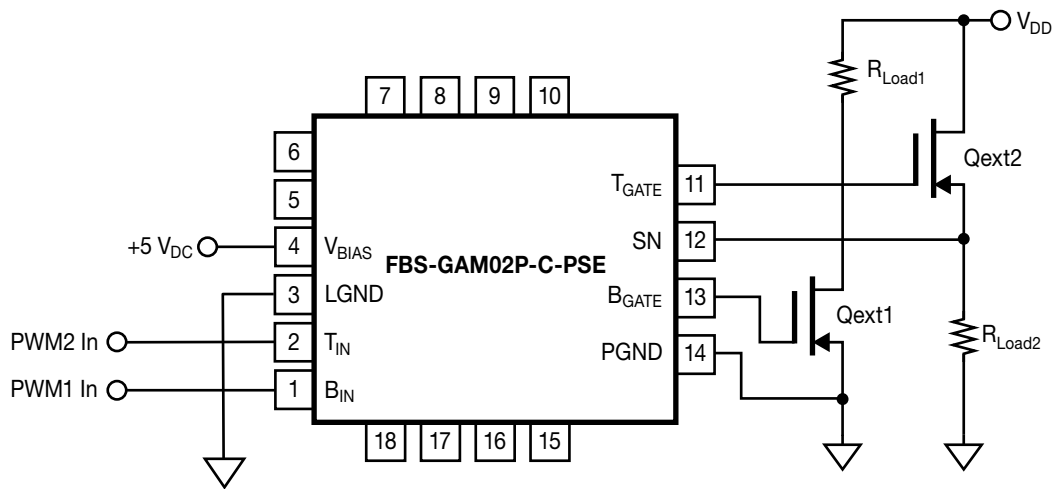

Figure 10. Independent High- and Low-Side Power Switches
The FBS-GAM02P-C-PSE incorporates a Power Good (PG) sensing circuit that disables both internal (low- and high-side) gate drivers when the +5 V gate drive bias potential (VBIAS) falls below the under-voltage threshold, UVLO-, or rises above the VBIAS over-voltage threshold level, OVLO+ (please refer to Figure 5 for the proper operational nomenclature and functionality versus the state of the VBIAS power supply). During the time when the VBIAS potential is outside of the pre-set threshold(s), the PG output (Pin 5) pin is logic low ("0"). Alternatively, when the VBIAS potential is within the pre-set thresholds the PG pin is logic high ("1"). The logic condition of the PG pin may be sensed by an FPGA or Microcontroller/DSP in-order to determine when the power switches in the FBS-GAM02P-C-PSE may be driven with pulse-width modulated (PWM) input signal(s) at the BIN and TIN logic inputs. If either the under-voltage and over-voltage protection features are not required or desired, then these may be disabled by connecting the \*SD (Pin 6) pin to VBIAS (pin 4) and/or the SD pin (Pin 7) to LGND (pin 3), as shown in Figure 10.